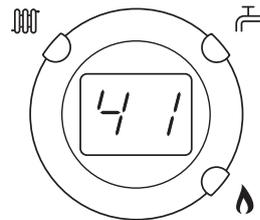

Fig. 22
3. Normally the display will show the current temperature of the water in the boiler (e.g. 41°C, Fig. 22). As the knob is turned the display will show the selected curve (Fig. 23).